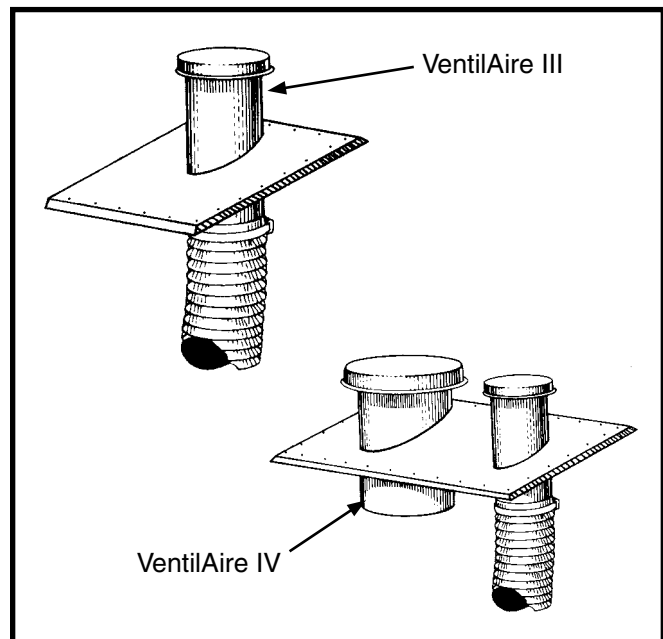

Figure 2. VentilAire III & IV
The B5BV electric furnace has a cutout on each side of the cabinet for ventillation air. The Ventilaire air quality packages introduce outdoor air into the living space during furnace blower operation. The VentilAire IV also serves to exhaust moist and/or hot air from the attic space. These packages meet the ventilation requirements as outlined in H.U.D. Standard Part 3280.103 (b) (2). See Figure 2 for typical installation.